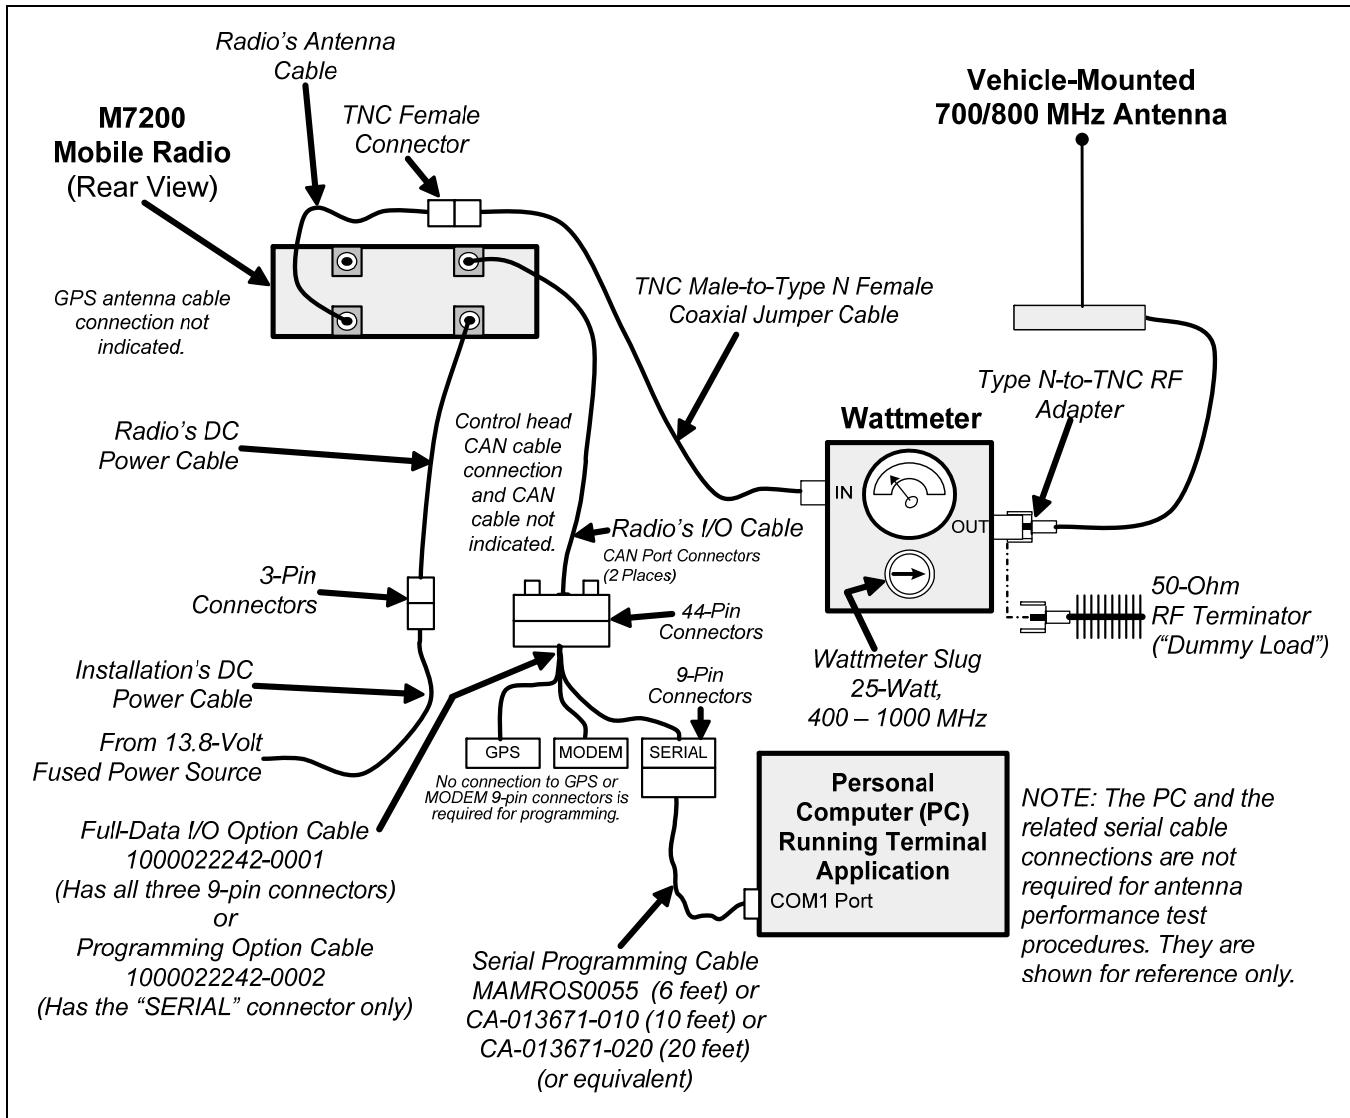

Figure 16-1: Wattmeter Connections for Antenna System Tests
1. Using the Type N male to TNC male RF coaxial jumper cable, connect the radio's antenna connector to the wattmeter's input connector. Refer to Figure 16-1 as necessary.
1. Connect the antenna cable from the vehicle-mounted 700/800 MHz antenna to the wattmeter as shown in Figure 16-1.